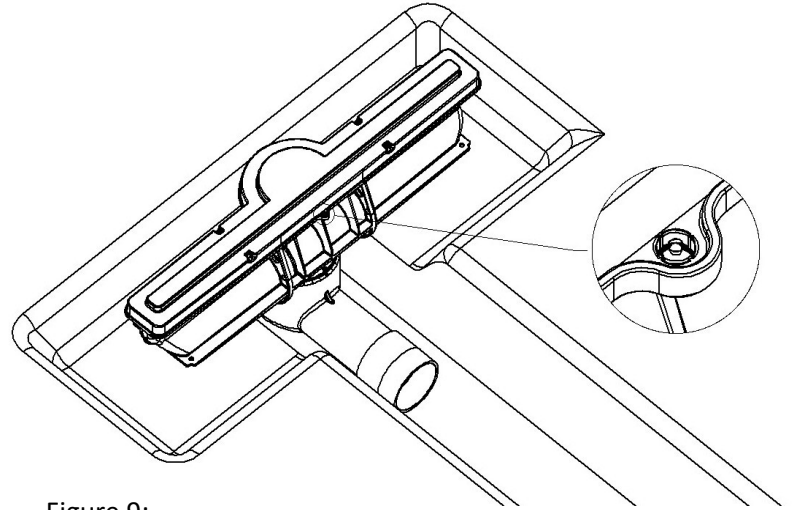

Figure 9:
**(Fig.9)**
**Each Drain assembly is supplied with a 4" PVC coupling preinstalled. (Fig. 9)**